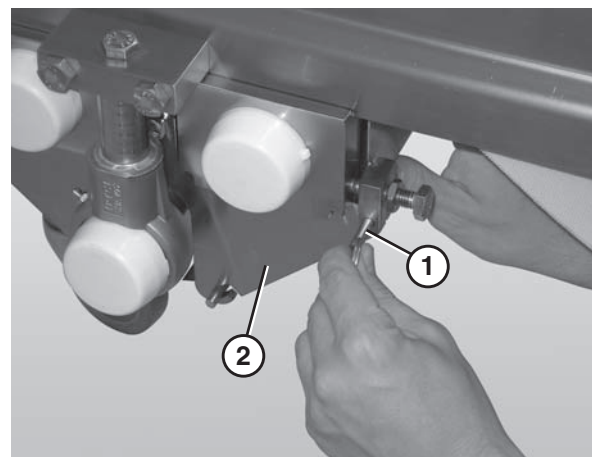

Figure 15
2. Remove the 2 pull pins (Figure 15, item 1) from the center drive side plate (Figure 15, item 2).
- Insert the pull pins (**Figure 15, item 1**).